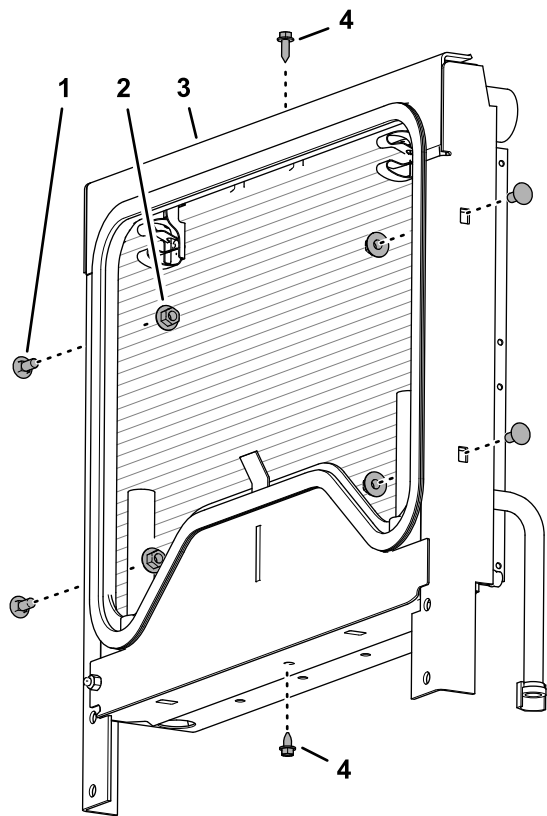

Figure 22
1. Remove the 2 flange head screws that secure the mounting frame to the radiator (Figure 22).
- Remove the 4 carriage bolts and 4 serrated-flange nuts that secure the mounting frame to the radiator (Figure 22). Discard the flange head screws, carriage bolts, and serrated-flange nuts.